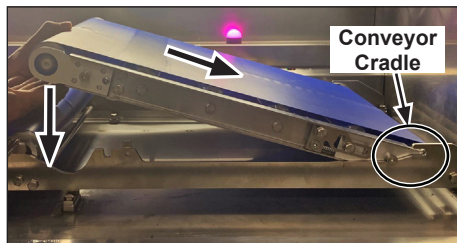

Figure 19. Place Conveyor into cradle
11. Slide the Conveyor Belt back into the cradle of the Buffer Conveyor. Carefully lower the Conveyor Belt back into place, being cautious of magnet couplings connection (Figure 19).
6. Slide the Conveyor Belt back into the cradle of the Buffer Conveyor. Press down carefully on the delivery end of the Conveyor Belt to lock in place (Figure 19).